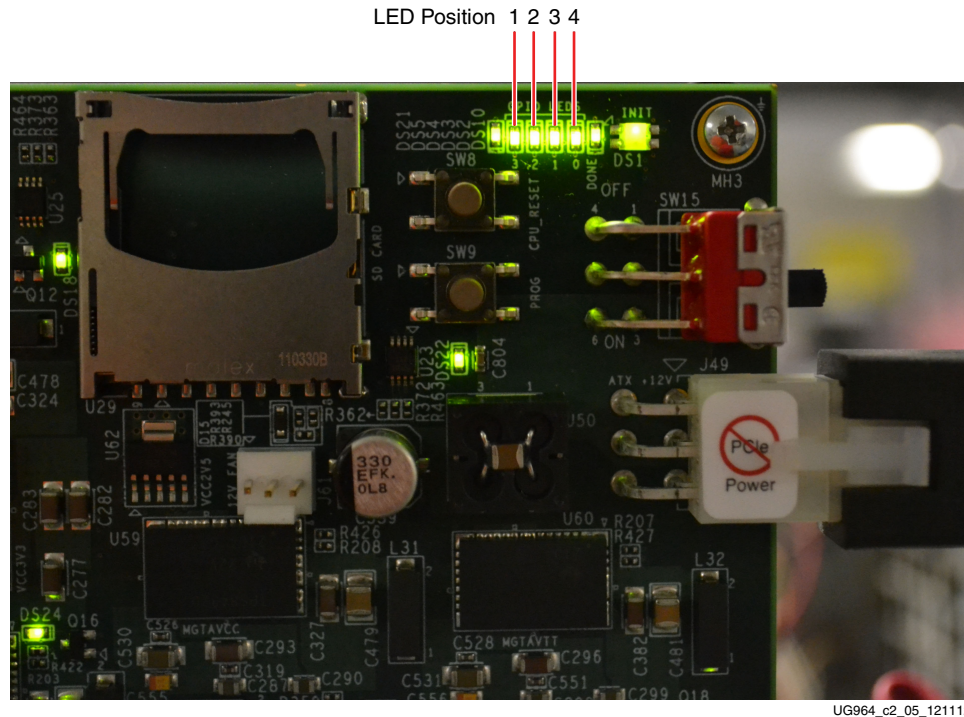

Figure 2-5: GPIO LEDs Indicating TRD Status
2. Confirm that the LED status located on the AC701 board conforms to Figure 2-5, and is as shown in Table 2-3: